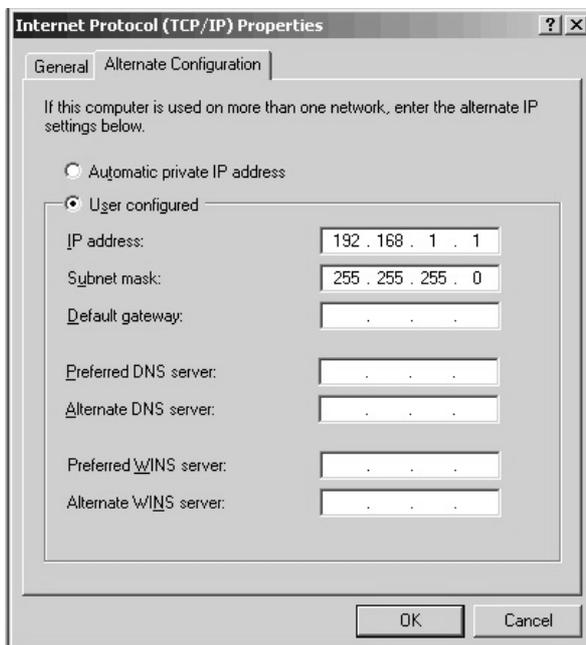

Fig. 1 Example from Windows XP
7. Configure an IP address and subnet mask to be used by your PC. See fig. 1.